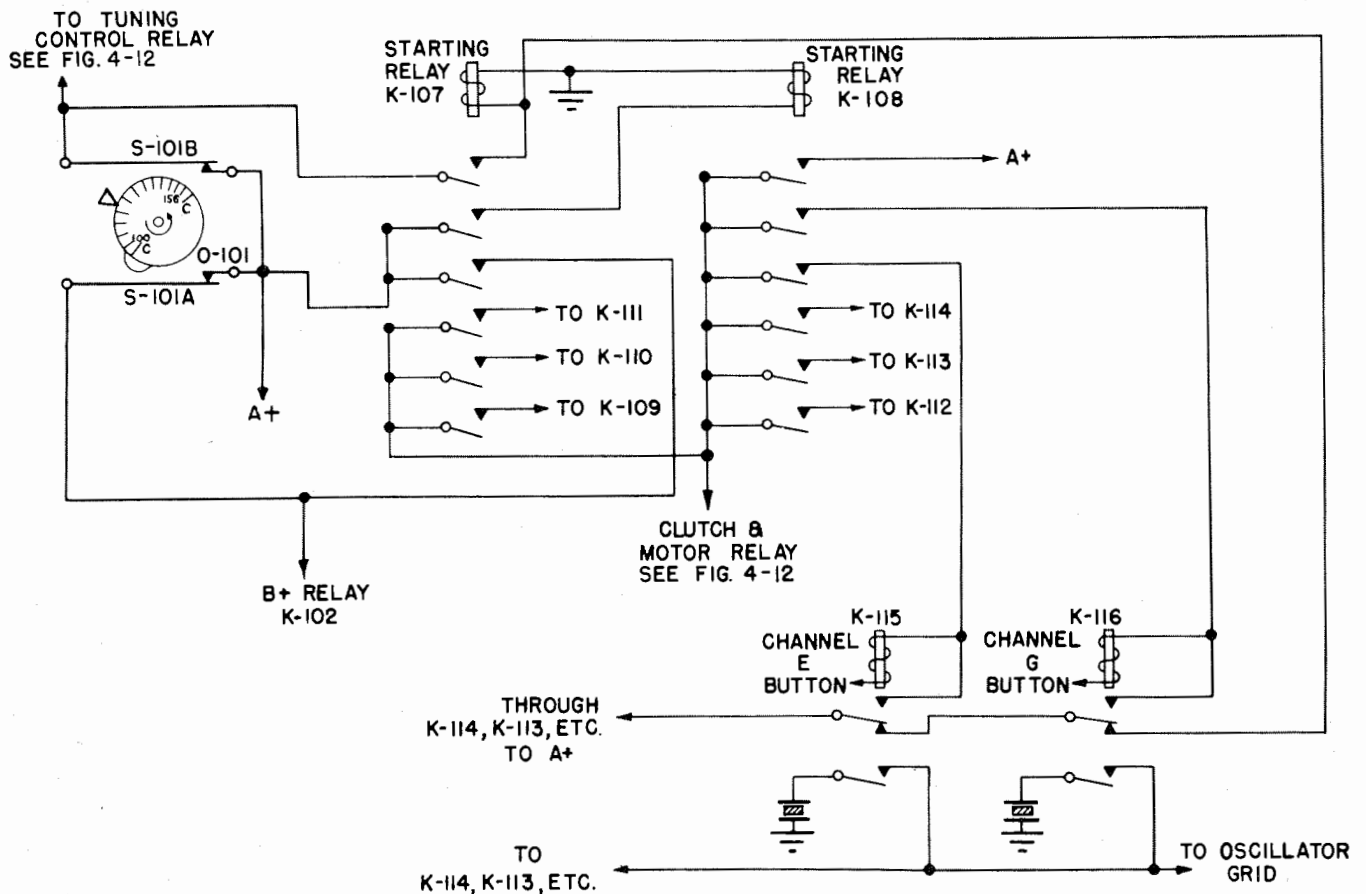

Figure 4-13. Radio Transmitter T-67/ARC-3 or T-312/ARC-3 Without Modification M-3—Starting Relay Circuit
(e) STARTING RELAYS. (See figure 4-13.)—In order to close the motor relay and prevent the transmitter from tuning to spurious responses in the uncalibrated portion of the variable capacitor travel, two relays K-107 and K-108 have been added. These relays operate together, relay K-108 being energized through a contact on relay K-107 whenever relay K-107 is energized. Their operation is as follows:
5. Cam O-101, which is driven by the motor, is located on top of variable capacitor C-115. The upper face is calibrated to indicate frequency. (See fig. 4-13.)
(f) MOTOR STOPPING SWITCH S-101A. (See figure 4-13.)—If the crystal in the selected channel should be defective, or if a channel happened to be selected in which no crystal was connected, the motor would ordinarily run indefinitely and suffer possible damage, since no grid current would ever be developed in the power amplifier and the sensitive relay could not open. In order to prevent this, motor stopping switch S-101A, which is also actuated by cam O-101, is provided. Its operation is as follows: